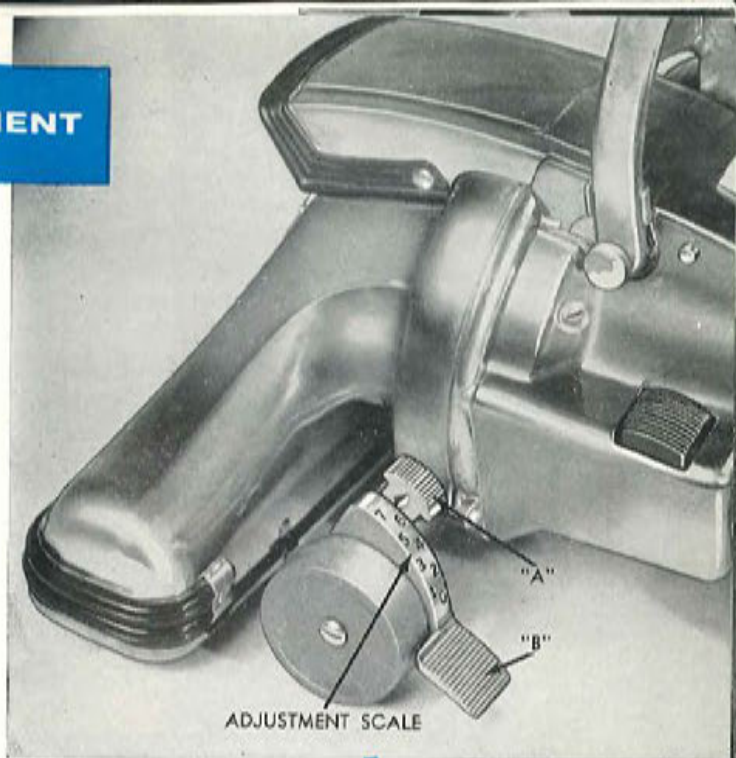
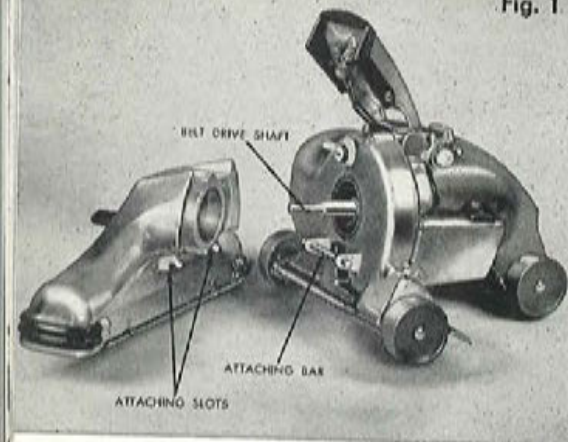

Fig. 1
Fig. 2
- STEP 3:** Place Attaching Slots at back of Rug Nozzle on the Attaching Bar. (see figures 1 and 2). Swing nozzle back toward Motor Unit with a slight downward pressure to overcome spring tension on Safety Switch (see figure 2). Hold nozzle in place with one hand and lock in place with Attachment Lock Lever at top-front of Motor Unit. (see figure 3).